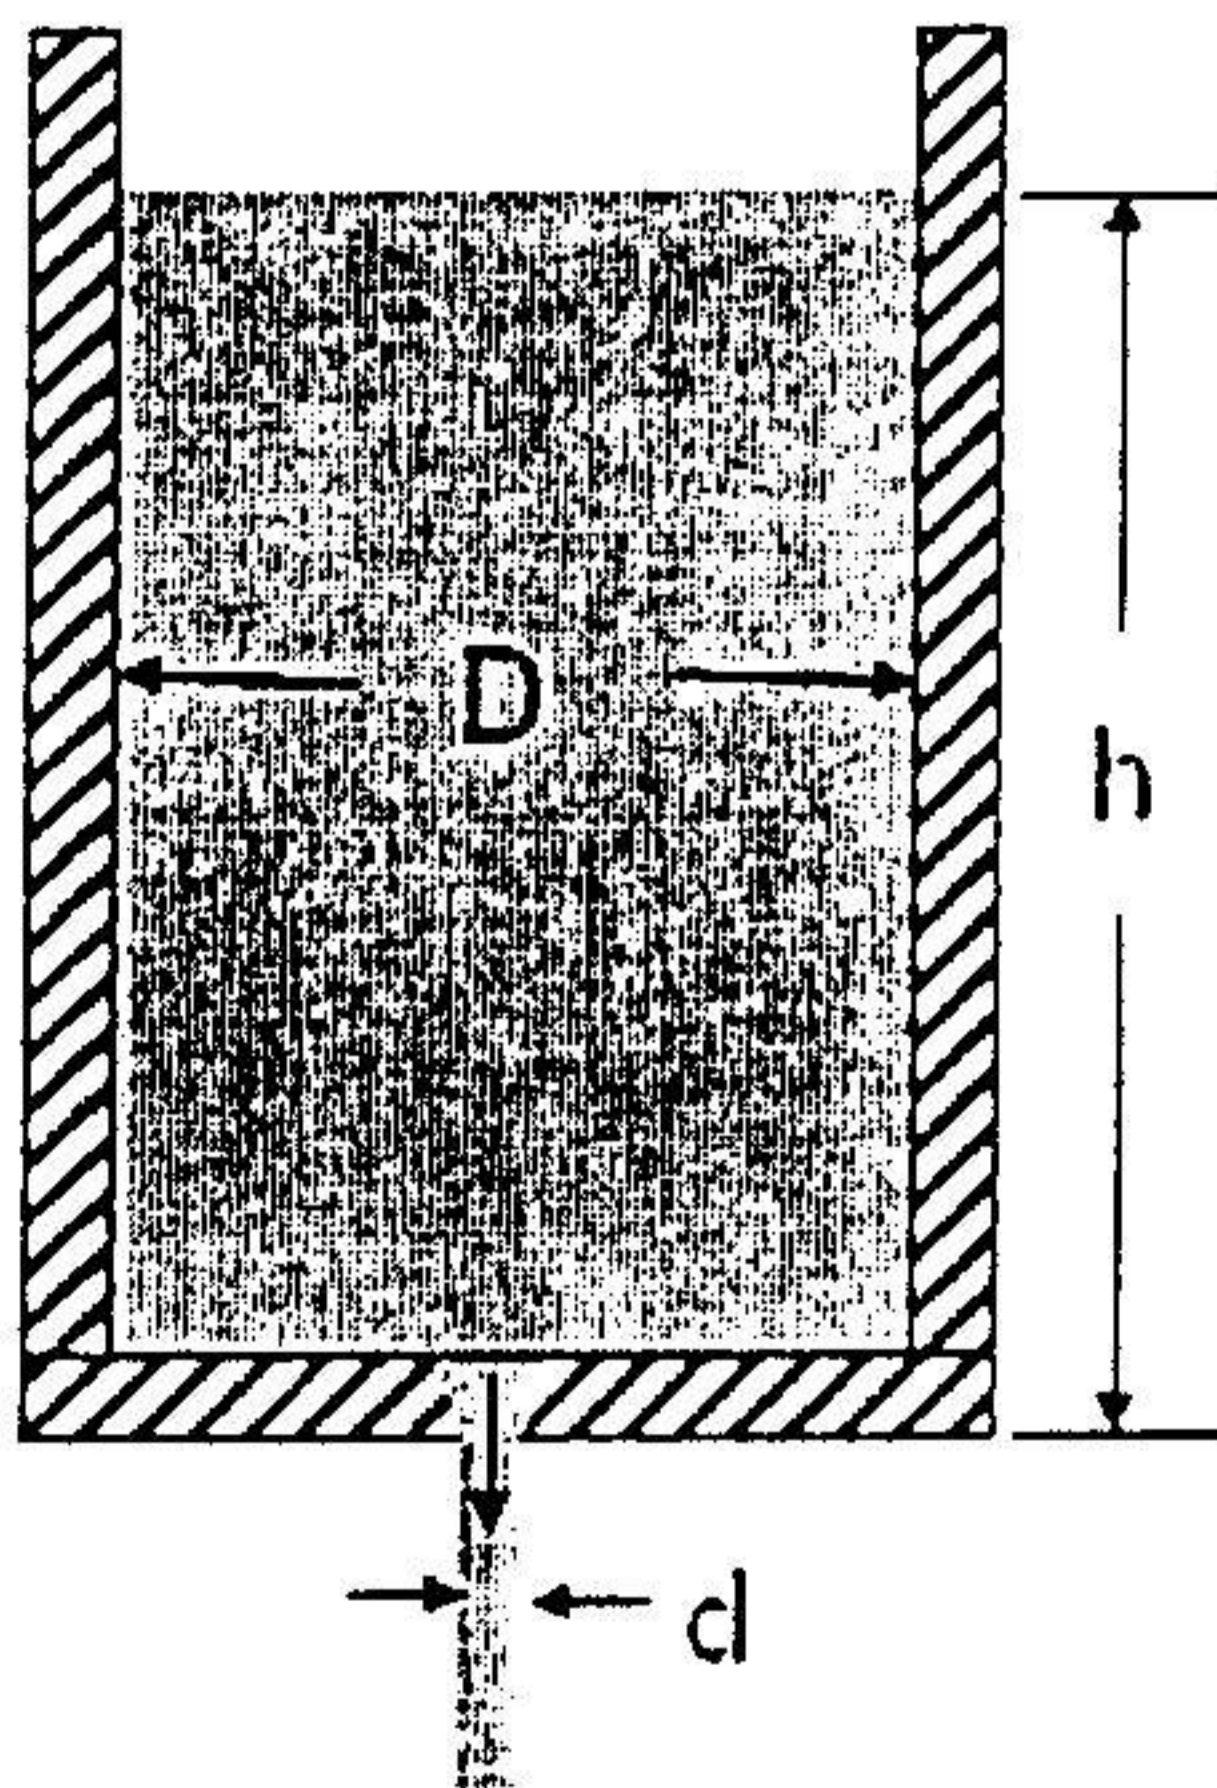

Figure 2
2. Figure 2 shows a tank (diameter D) with a smooth, well-rounded nozzle (diameter d) in the bottom through which fluid is discharging. Derive the equation for the time required to empty a tank, considering the variation of velocity as the depth decreases. (10%)